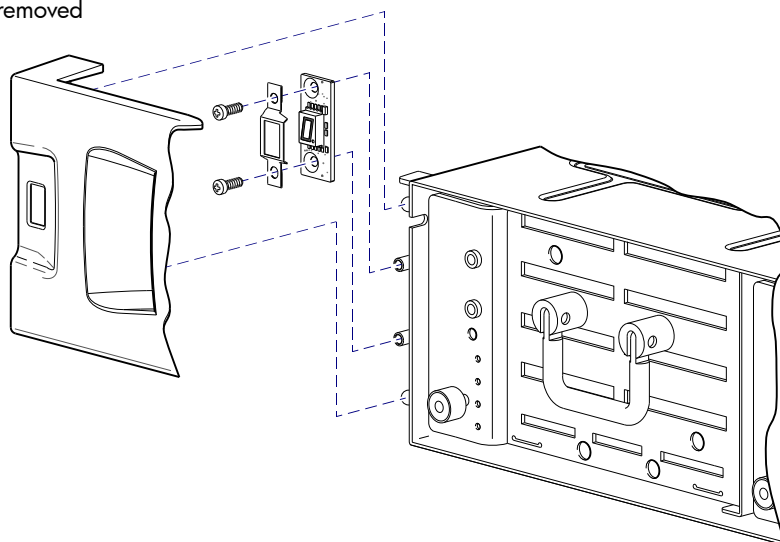
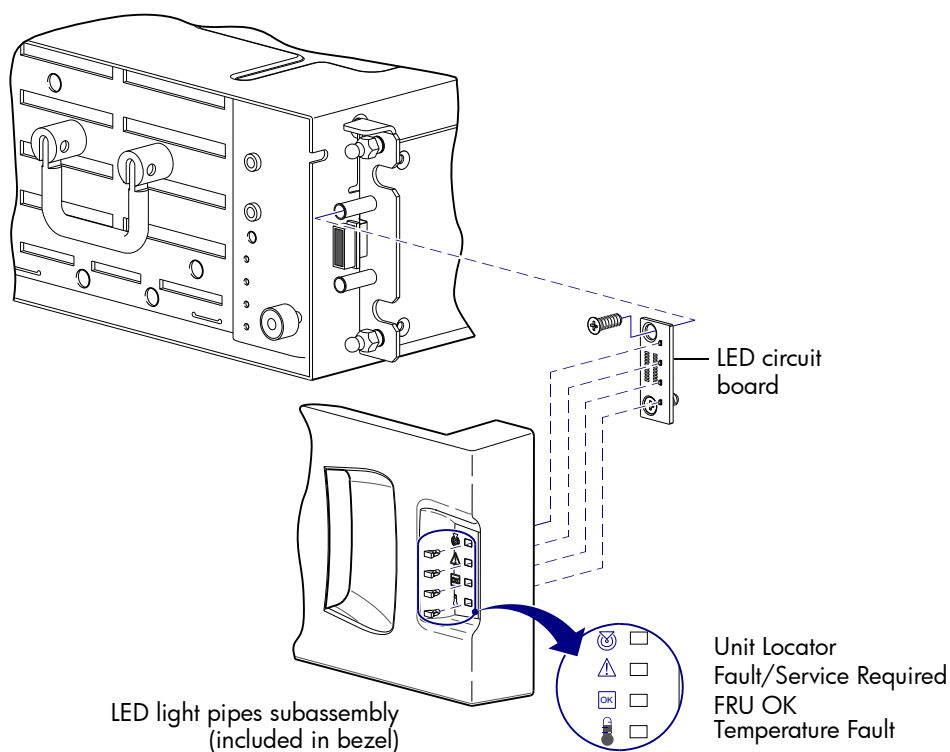
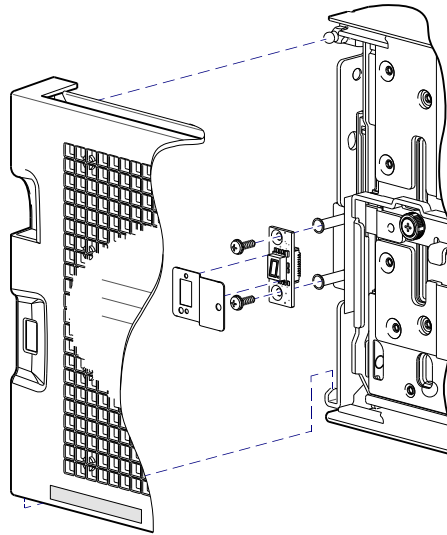
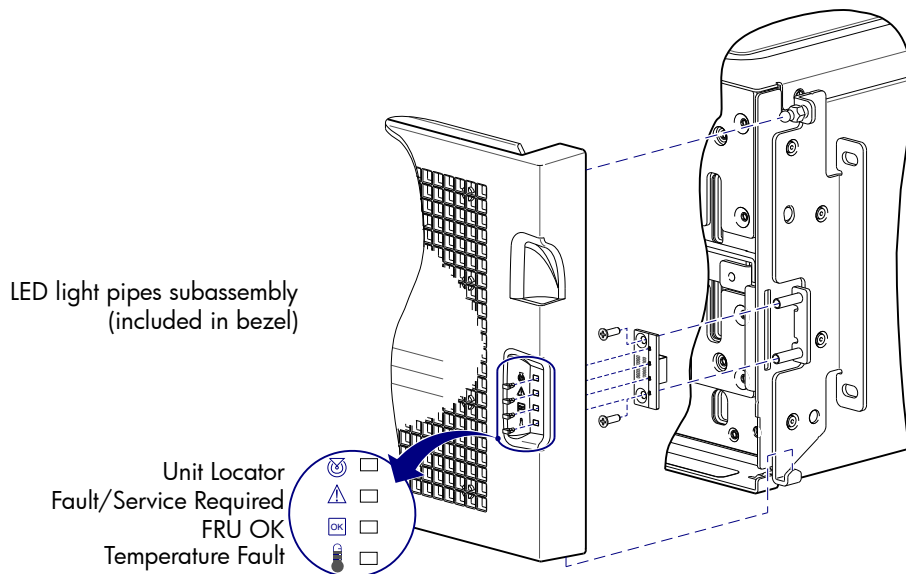

Figure 50 Replacing left ear components (2U48)
Figure 51 Replacing right ear components (2U48)
Figure 52 Replacing left ear components (4U56)
Figure 53 Replacing right ear components (4U56)
Figure 50 shows the left ear of a 2U48 model with the LED circuit board exploded from its installed position on the ear flange. The enclosure bezel is removed to reveal the left ear flange and the left drawer in closed position. See Attaching and removing the enclosure bezel on page 25 (Figure 15) for bezel attachment and removal details.
Figure 51 shows the right ear of a 2U48 model. The enclosure bezel is removed to reveal the right ear flange and the right drawer in closed position. The LED circuit board is shown exploded from its installed position—and aligned with the light pipe sub-assembly—which is integral to the enclosure bezel.
Figure 52 shows the left ear of a 4U56 models with the LED circuit board exploded from its installed position on the ear flange. The enclosure bezel is removed to reveal the left ear flange and the left drawer in closed position. See Attaching and removing the enclosure bezel on page 25 (Figure 15) for bezel attachment and removal details.
Figure 53 shows the right ear of 6004 model. The enclosure bezel is removed to reveal the right ear flange and the right drawer in closed position. The LED circuit board is shown exploded from its installed position—and aligned with the light pipe sub-assembly—which is integral to the enclosure bezel.
- 2U48 chassis: Figure 50 on page 64 (left ear) and Figure 51 on page 64 (right ear)
- 4U56 chassis: Figure 52 on page 65 (left ear) and Figure 53 on page 65 (right ear)
6. Remove the ESD cage protecting the LED circuit board, and retain it for reinstallation (applies to left ear kit replacement only: see Figure 50 or Figure 52 on page 65).
- 2U48 chassis circuit board and LEDs: see Figure 50 on page 64 (left ear) and Figure 51 on page 64 (right ear)
- 4U56 chassis circuit board and LEDs: see Figure 52 on page 65 (left ear) and Figure 53 on page 65 (right ear)
- 2U48 chassis: see Figure 50 on page 64 (left ear) and Figure 51 on page 64 (right ear)
- 4U56 chassis: see Figure 52 on page 65 (left ear) and Figure 53 on page 65 (right ear)
- d. Locate the ESD cage and align its through-holes with those on the LED circuit board (applies to left ear kit replacement only: see Figure 50 or Figure 52 on page 65).